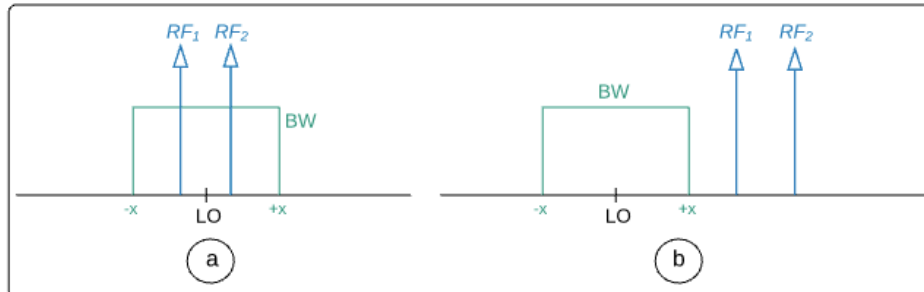

Figure 12: IIP3: a) interfering tones are in-band, b) interfering tones are out-of-band.
The IIP3 is measured using a two-tone (CW) test where interfering tones RF_1 and RF_2 are applied at receiver input. The measurement is executed in two scenarios i.e. while interfering tones are inside RF channel bandwidth (in-band) and while being out-of-band, as visualized in Figure 12.